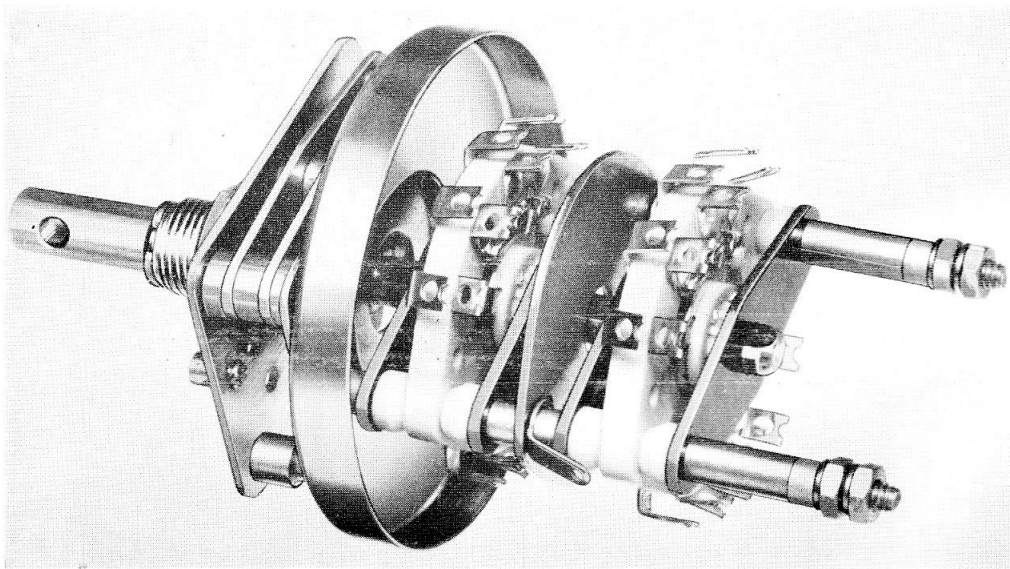

Fig. 2. Switch mechanism (cover removed)
2. The index mechanism consists of a roller held firmly against an indexing sprocket by means of a heavy spring. Contact clips, which are mounted on ceramic insulation discs, are manufactured from silver alloy, and the rotor blades are made from hard brass heavily silver plated (fig. 2). Contact resistance is less than 3 milliohms.